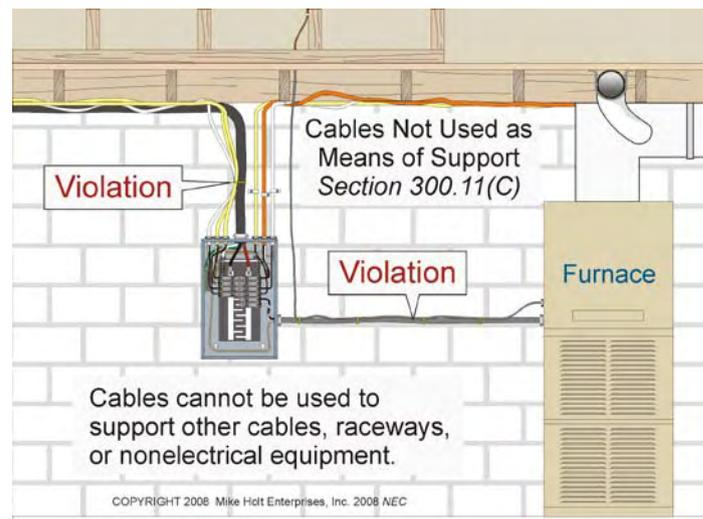

Figure 300-21
(3) Boxes Supported by Raceways. Raceways are permitted as a means of support for threaded boxes and conduit bodies in accordance with 314.23(E) and (F), or to support luminaires in accordance with 410.36(E).
(C) Cables Not Used as Means of Support. Cables must not be used to support other cables, raceways, or nonelectrical equipment. **Figure 300-21**